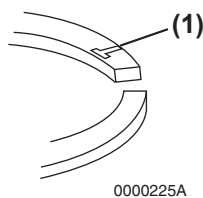

Figure 4-2-87
Note: Reinstall the top and second piston rings with the stamped “makers mark” (Figure 4-2-87, (1)) facing the top of the piston. The “makers mark” may vary in appearance but will always be located on the top surface of the piston ring adjacent to the piston ring gap. The oil ring and oil ring expander can be installed either side up.